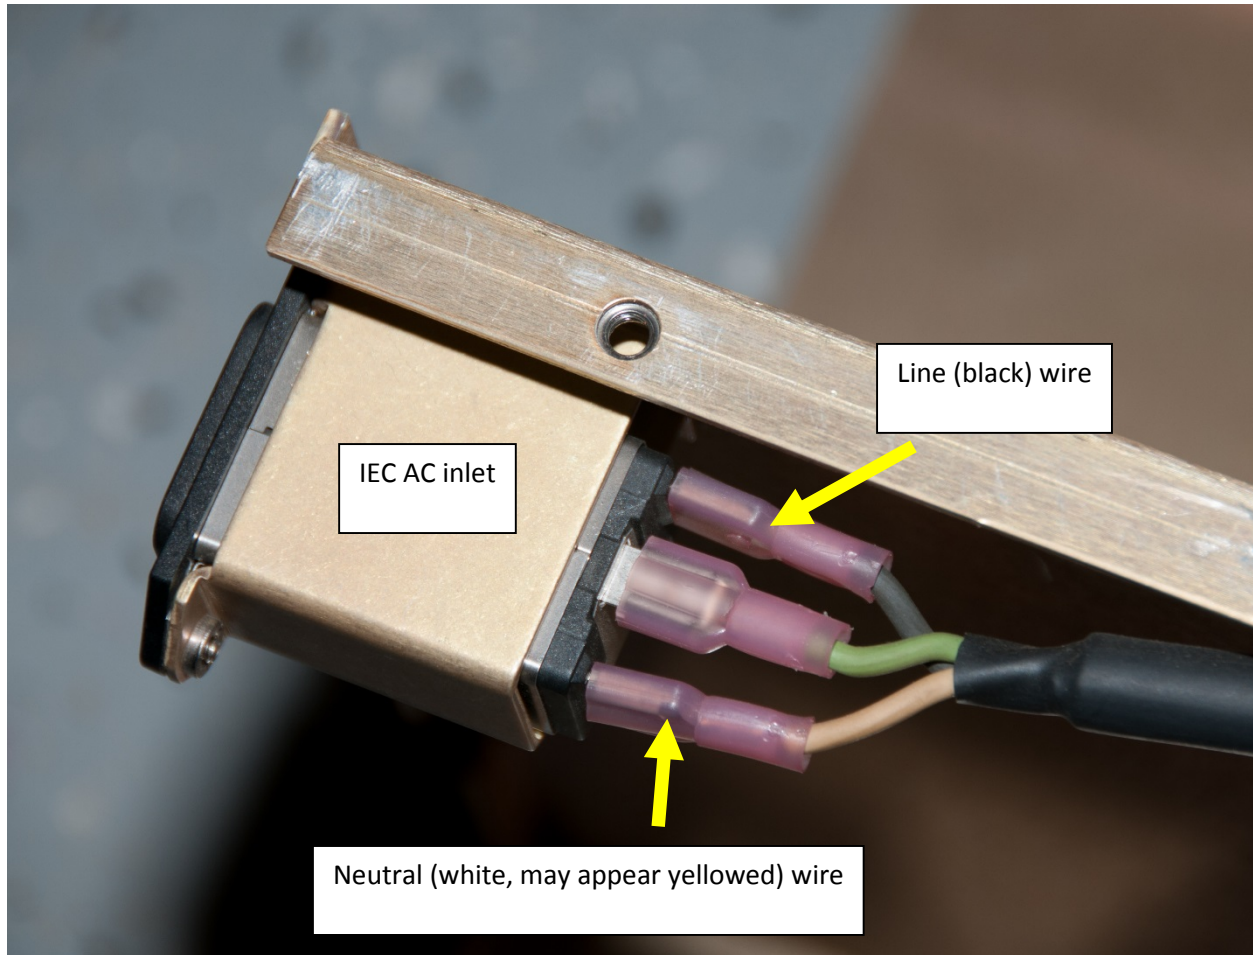

Fig. 1 – IEC AC Inlet at the rear of the MFA2PA **BEFORE** the wires are switched.
2. On the rear of the IEC AC inlet on the MFA2PA, switch the line (black) and neutral (white) quick disconnect spade connectors (Fig. 1).